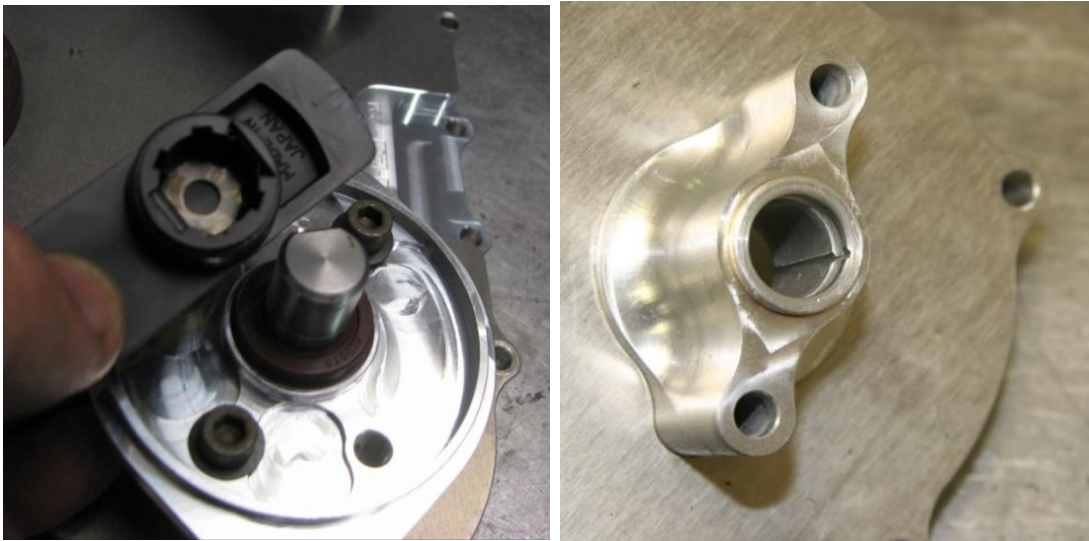

Figure 156 – New Distributor Shaft Bush Fitted – nopic x 1
- Glue the distributor rotors to the shafts using 24hr Araldite mixed with a suitable filler (such as cotton flock) as shown in Figure 156.
- New bushes must be fitted to the distributor housings as shown in Figure 156. Distributor posts must be generously lubricated with Nulon L90 or grease.